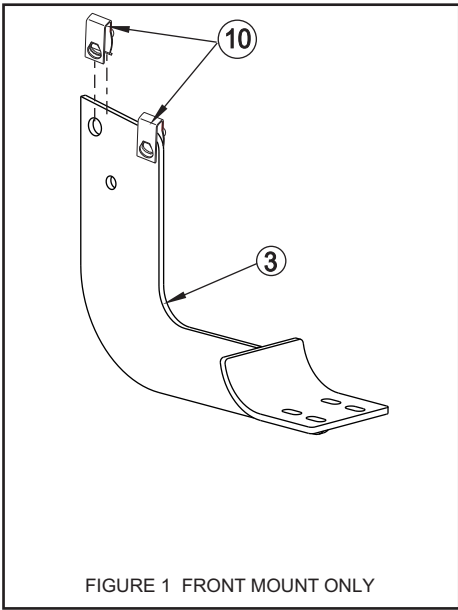

FIGURE 1 FRONT MOUNT ONLY
- STEP 2. Insert extruded u-nuts in 2 of the mount brackets as shown. These are for the front mount locations. **SEE FIGURE 1.**